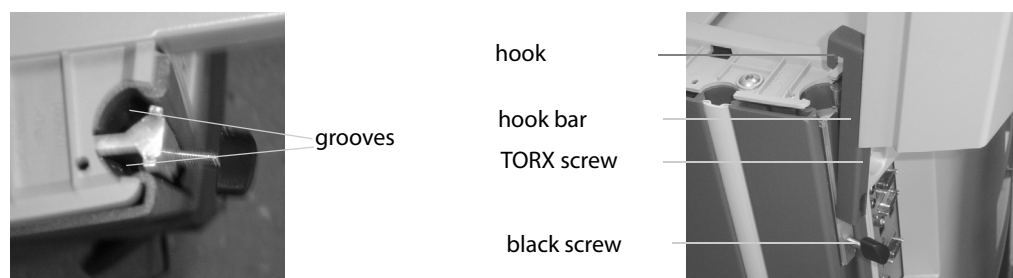

Figure 4-7. Hooks and grooves for holding monitor base.
- 6 Use a TORX 30 screwdriver or an NV4 Allen key to remove the 2 screws on the hook bars (see Fig 4-7) that are attached to the back of the monitor base.
- 2 Slide the hook bars of the monitor base into the grooves (see Fig 4-7). Make sure that the hooks are in place at the top of each groove so that the monitor base is supported correctly.